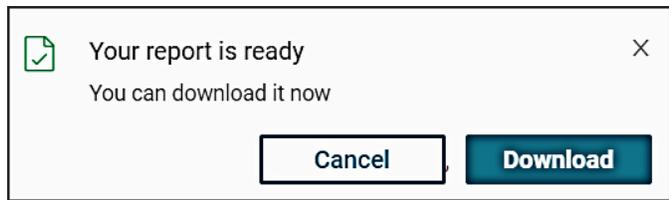

Figure 76. Download Access
7. After “Generate report” button is pressed, a pop-up message will appear indicating when the report is ready to download. See **Figure 76**.